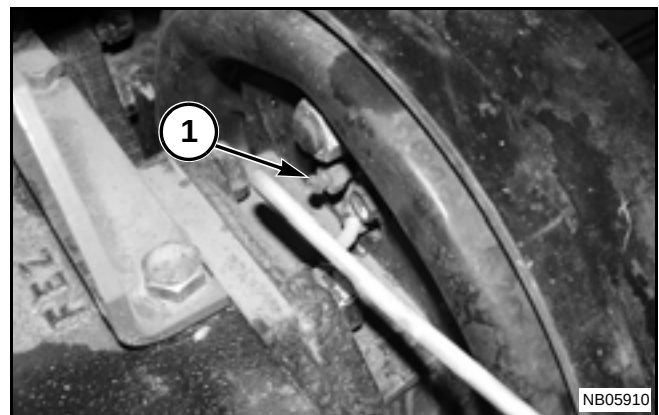

FIG. 88
FIG. 88: Lock the brake pedals together and rapidly pump the brake pedals several times. Then, hold the pedals in a depressed (down) position while a second person opens the bleed screw (1) on the left-hand wheel cylinder allowing fluid and air to escape. As soon as the pedals have reached the full down position, immediately close the bleed screw before allowing the brake pedals to return to the up position.